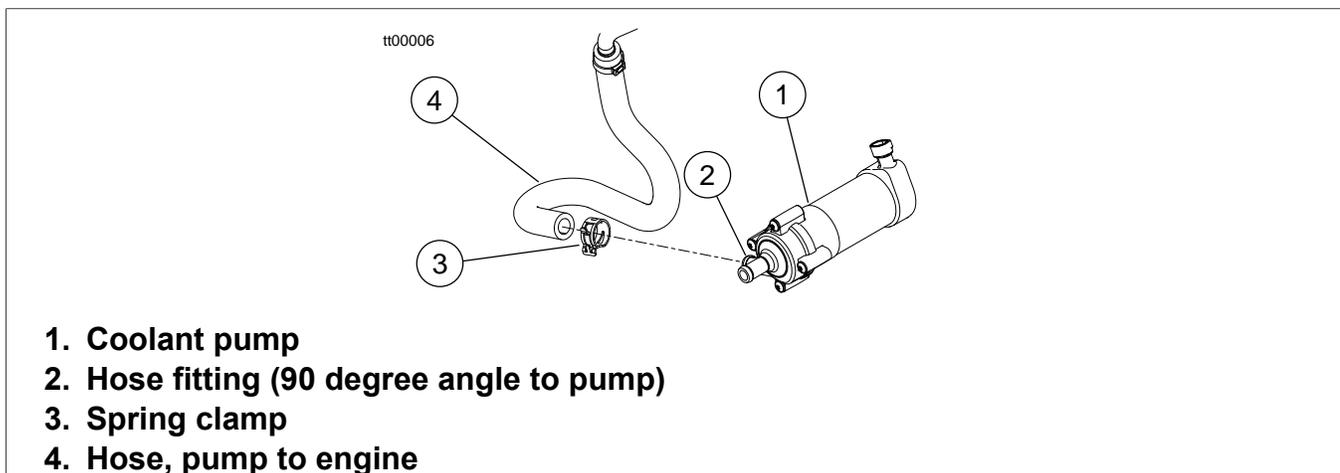

Figure 2. Accessing Coolant Pump Impeller
- See Figure 2. Remove the spring clamp (3) from the hose fitting (2) on the bottom of the pump (90 degree angle to the pump) and coolant will drain. With the pump not running, **gently** insert a small screwdriver into the fitting on the pump and move the impeller blades. You should be able to feel the impeller turning as you roll the impeller blades with the screwdriver tip.